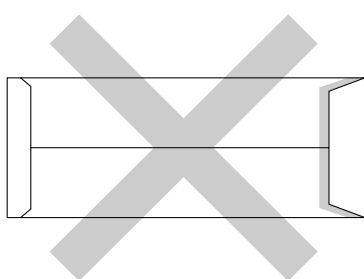

Figure 2
- with sealing flaps as shown in Figure 2